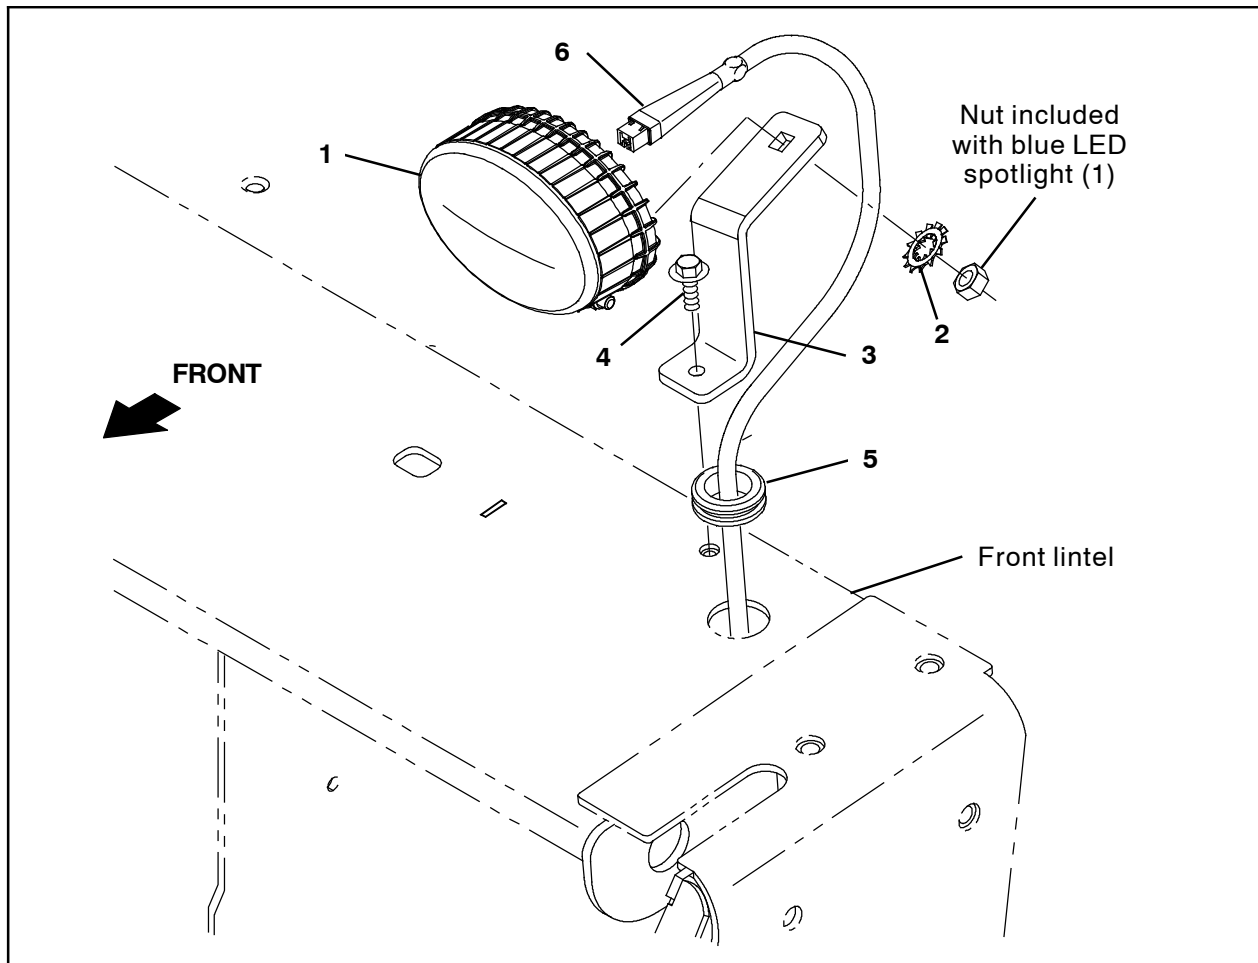

FIG. 5
- All machines:** Use one SEMS M8 hex screw (4) to install the front spotlight mounting bracket (3) onto the front lintel. (Fig. 5)
- All machines:** Remove the hex nut included with the blue LED spotlight (1) from the light. (Fig. 5)
10. All machines: Use the hex nut removed from the blue LED spotlight (1) in the previous step and a lock washer (2) to install the blue LED spotlight onto the front spotlight mounting bracket (3). (Fig. 5)
11. All machines: Route the end of the blue spotlight harness (6) to be connected to the blue LED spotlight (1) through the hole in the front lintel where the plug was previously located. (Fig. 5/Fig. 7)
12. All machines: Slide a grommet (5) onto the end of the blue spotlight harness (6) to be connected to the blue LED spotlight (1) installed in the previous step. (Fig. 5/Fig. 7)
13. All machines: Connect the blue spotlight harness (6) to the blue LED spotlight (1). (Fig. 5/Fig. 7)
14. All machines: Insert the grommet (5) into the hole in the front lintel. (Fig. 5)
15. All machines: Use several cable ties to secure the blue spotlight harness (6) to the front spotlight mounting bracket (3). (Fig. 5/ Fig. 6)